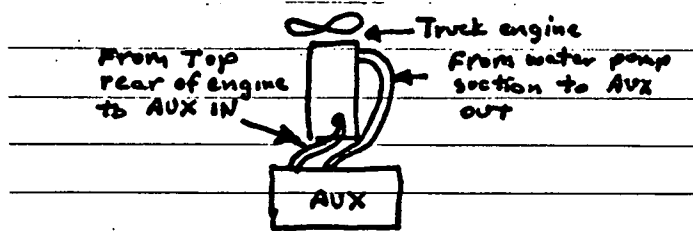

FIGURE 4. Typical Cooling Hose Connections
3. Be sure to install interconnecting cooling system hoses between truck engine and generator set properly. Engine hose connections will vary depending on truck engine and manufacturer. See Figure 4.